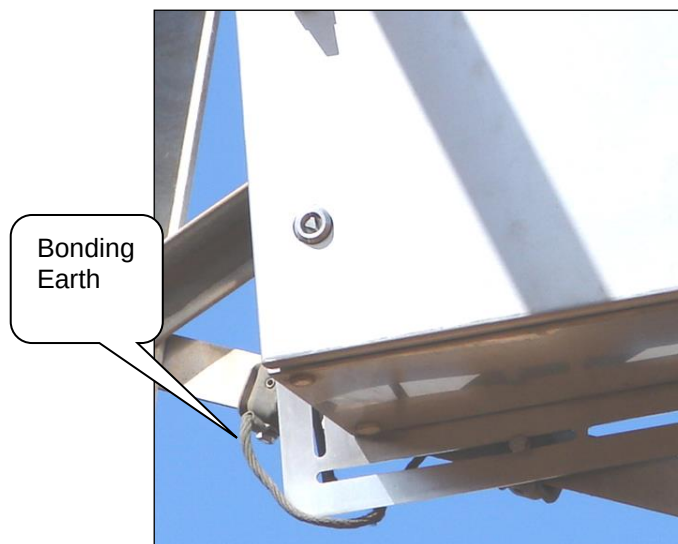

Figure 8: Joint Box Bonding Earth
- n) Ensure that the earth bonding attaching the joint boxes (non-insulated box) and the tower is in place and intact (see figure 8).